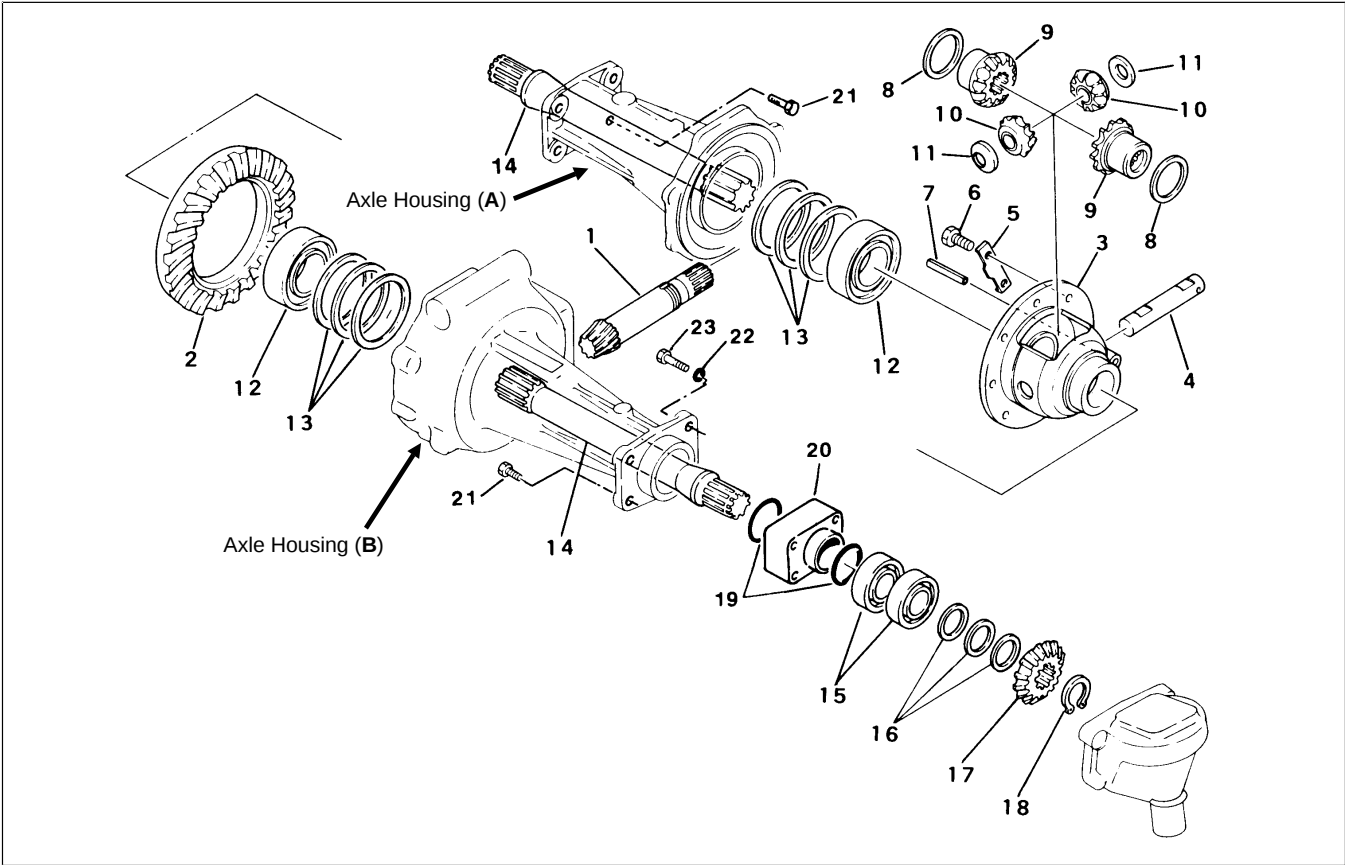

Figure 23
2. Remove bolts (Fig. 23, Item 23 and 21) securing gear case to axle housing and pull gear case complete with final drive case.
4. Pull out differential shaft (Fig. 23, Item 14) from housing (B).
5. Remove differential gear assembly (Fig. 23, Items 3 - 11) from axle housing (A).
6. Pull out differential shaft from housing (A).